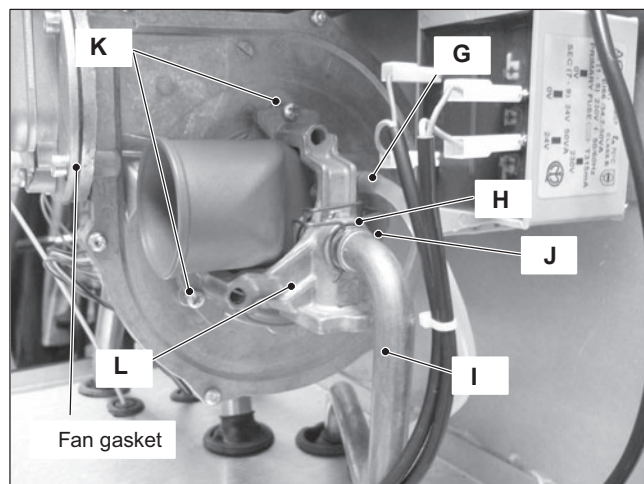

Figure 17.3
- 4 Disconnect the rubber pipe G (Figure 17.3).
- 6 Remove the fixing fork H and remove the gas pipe I (Figure 17.3).
Before reassembling ensure the fan gasket (Figure 17.3) is correctly mounted.